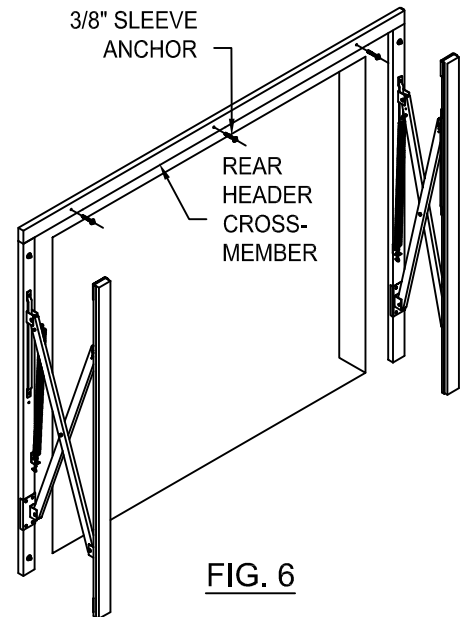

FIG. 6
- * Position rear header cross-member into place (FIG. 6).
- * Insert 3/8" sleeve anchors and tighten with 1/2" socket wrench (FIG. 6).